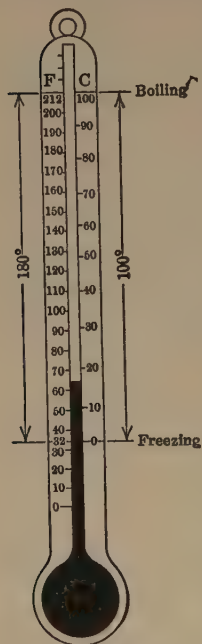

FIG. 52. — Comparison of Fahrenheit and Centigrade scales.
**Comparison of Fahrenheit and Centigrade readings.** The freezing point of water is  $0^{\circ}$  Centigrade and  $32^{\circ}$  Fahrenheit, Fig. 52. The boiling point of water is  $100^{\circ}$  Centigrade and  $212^{\circ}$  Fahrenheit. It is therefore seen that 1 Centigrade degree = 1.8 Fahrenheit degrees. By using these equivalents and remembering always that the freezing point of water is the common reckoning point for the two scales, it is an easy matter to calculate one scale reading from the other. For example, when the house thermometer reads  $68^{\circ}$  Fahrenheit, what would a Centigrade thermometer read in the same place? From  $68^{\circ}$  to the freezing point there are  $68^{\circ} - 32^{\circ} = 36$  Fahrenheit